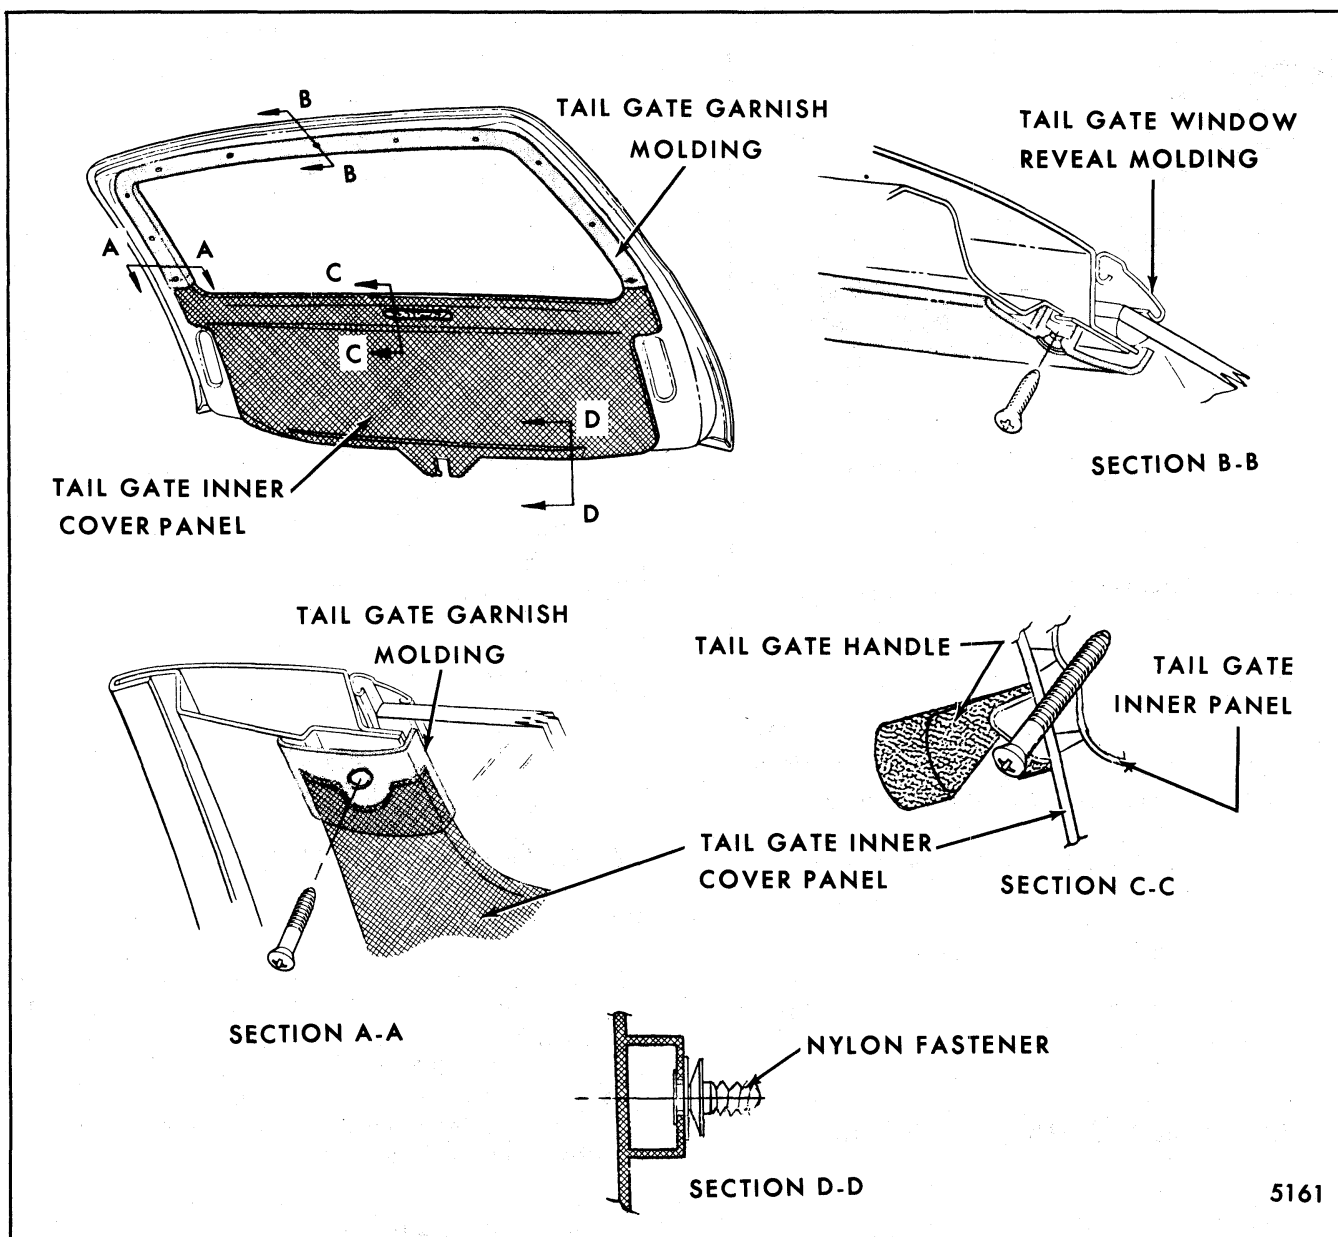

Fig. 7-86-Tailgate Inner Cover Panel and Tailgate Window Garnish Molding
A one piece plastic garnish molding is used around the tail gate window opening above the belt line (Fig. 7-86). It is secured to the tailgate inner panel with exposed screws. It is designed to conceal the tailgate window pinchweld and "finish" the area immediately adjacent to the glass.
The tailgate inner cover panel is used to conceal the lower tailgate window pinchweld flange and to finish the lower half of the tailgate inner panel. It is secured to the inner panel by a series of "push-on" fasteners and exposed screws. An inside pull handle is mounted at tailgate centerline just below the tailgate window opening (Fig. 7-86).
1. Remove screws securing inside pull handle to tailgate inner panel and remove handle (Section C-C, Fig. 7-86).
3. Using trim pad remover tool J-9886 or equivalent, disengage cover panel "push-on" fasteners from inner panel along bottom edge of cover panel (Section D-D, Fig. 7-86).
3. Remove two inner cover panel screws from lock assembly tabs (Fig. 7-86).